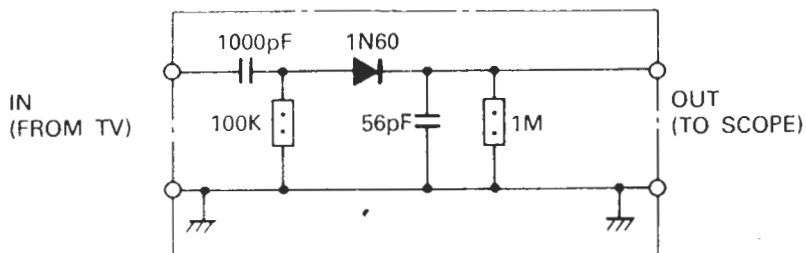

Figure 6. Detector Diagram
OSCILLOSCOPE ..... Connect through the detector (See figure 6.) to the collector of Q161 on the IF Board.
2. Supply +12 volts to the IF Board. (See figure 6.)